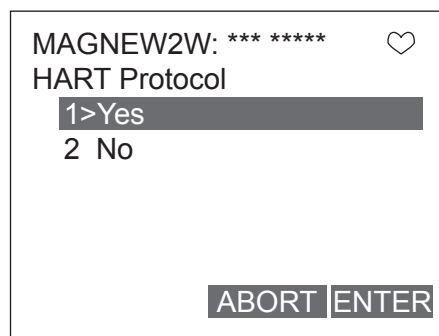

Figure 7-18
3. When F4 (ENTER) is pressed, Figure 7-18 will be displayed for confirmation. If communication method is correct select "Yes" and press F4 (ENTER). If "No" selected or F3 (ABORT) is pressed here, selection will be canceled and the display will return to selecting menu display.